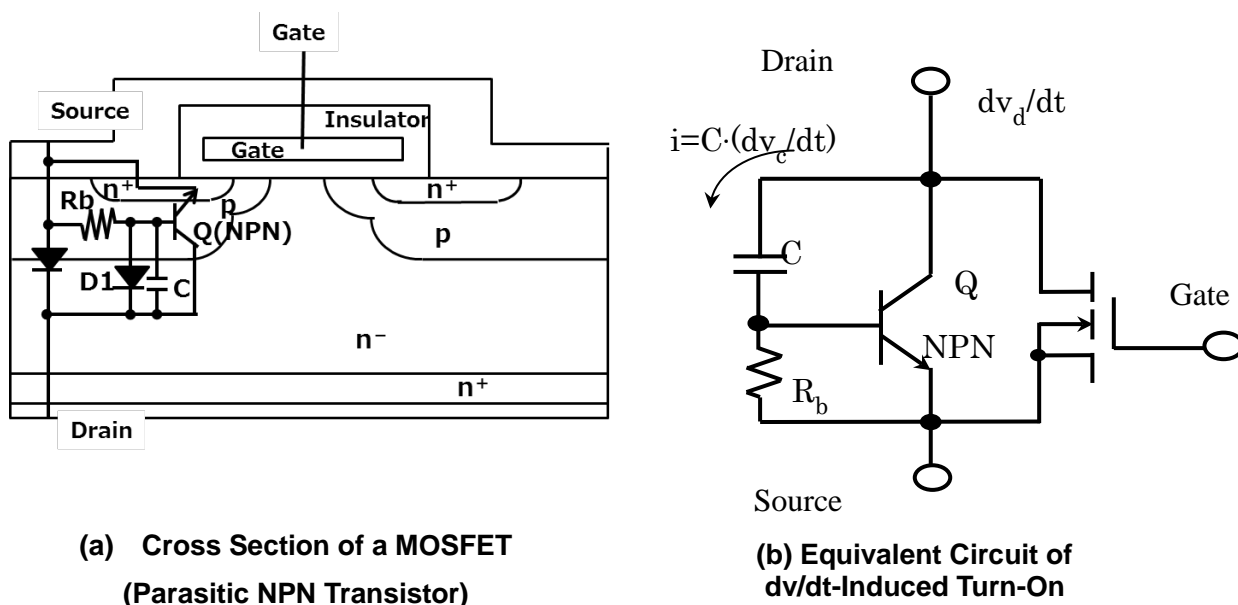

Figure 1.4 Cross Section and Equivalent Circuit of a MOSFET
When the drain-source voltage is raised sharply at the turn-on of a MOSFET, a displacement current flows to the PN junction capacitance (C) between drain and source, as shown in Figure 1.4, due to the rate of voltage change dv/dt . The displacement current is calculated as $i = C \cdot (dv_c/dt)$. Current i causes a voltage drop of $i \cdot R_b$ due to the resistance R_b of this layer. If the voltage drop exceeds the base-emitter forward voltage (V_{BE}) of the parasitic NPN transistor, it is forced into conduction.